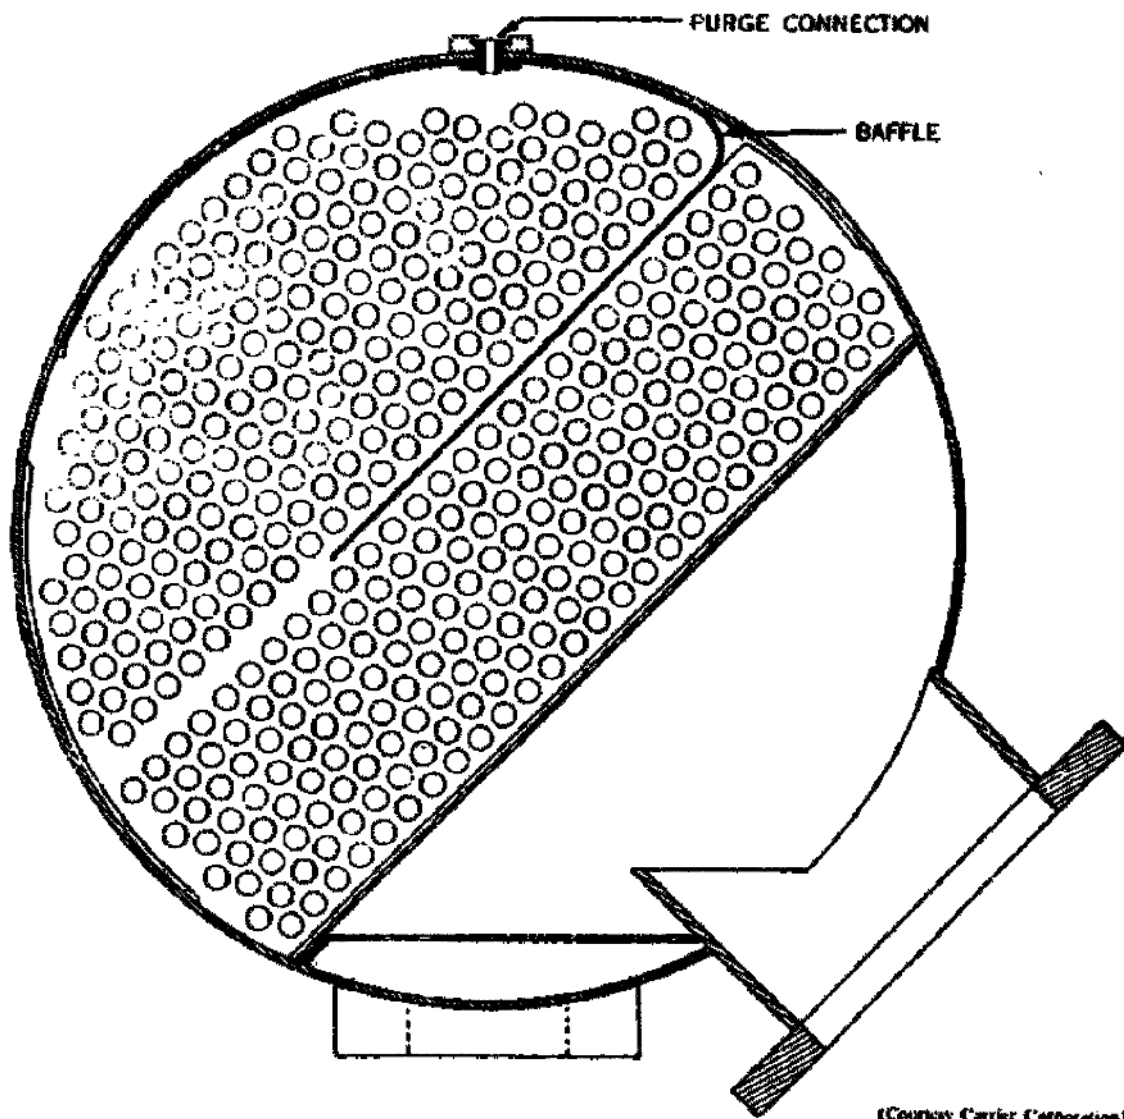
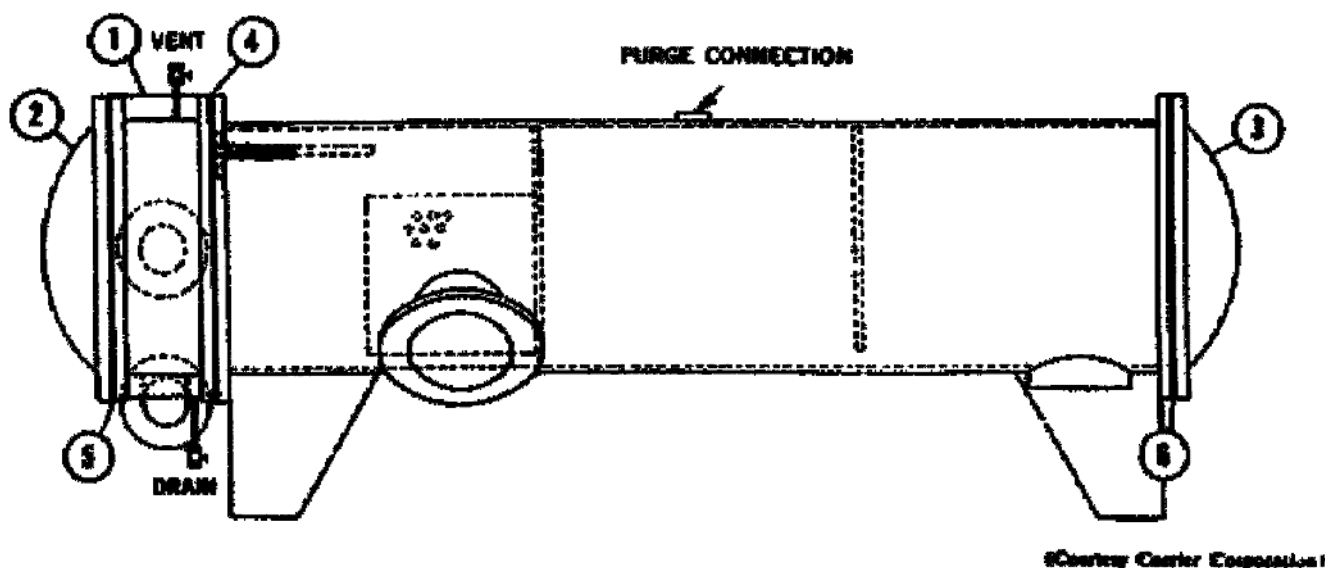

Figure 62. Cross section of the condenser.
Figure 63. Condenser diagram.
1. The condenser is a shell and tube type similar in construction to the cooler. The primary function of the condenser is to receive the hot refrigerant gas from the compressor and condense it to a liquid. A secondary function of the condenser is to collect and concentrate noncondensable gases so that they may be removed by the purge recovery system. The top portion of the condenser is baffled, as shown in figure 62. This baffle incloses a portion of the first water pass. The noncondensables rise to the top portion of the condenser because they are lighter than
2. A perforated baffle or distribution plate, as shown in figure 62, is installed along the tube bundle to prevent direct impact of the compressor discharge on the tubes. The baffle also serves to distribute the gas throughout the length of the condenser. The condensed refrigerant leaves the condenser through a bottom connection at one end and flows into the condenser float trap chamber into the economizer chamber. The water boxes of all condensers are designed for a maximum working pressure of 200 p.s.i.g. The water box, item 1 in figure 63, is provided with the necessary division plates to give the required flow. Water box covers, items 2 and 3 in figure 63, may be removed without disturbing any refrigerant joint since the tube sheets are welded into the condenser and flange. Vent and drain openings are provided in the water circuit. The condenser is connected to the compressor and the cooler shell with expansion joints to allow for differences in expansion between them. Figure 63 is a side view of the condenser.
- (1) Shut off the main line inlet and outlet valves.
- (2) Drain water from condenser through the water box drain valve. Open the vent cock in the gauge line or remove the gauge to help draining.
- (3) Remove all nuts from the water box covers, leaving two on loosely for safety.
- (4) Using special threaded jacking bolts, force the cover away from the flanges. As soon as the covers are loose from the gaskets, secure a rope to the rigging bolt in the cover and suspend from overhead. Remove the last two nuts and place on the floor.
(5) Scrape both the cover and the matching flange free of any gasket material, items 4, 5, and 6 in figure 63.
(6) Remove the water box division plate by sliding it out from its grooves. Caution should be used in removing this plate; it is made of cast iron. Penetrating oil may be used to help remove the plate.
(7) Use a nylon brush or equal type on the end of a long rod. Clean each tube with a scrubbing motion and flush each tube after the brushing has been completed. **CAUTION:** Do not permit tubes to be exposed to air long enough to dry before cleaning since dry sludge is more difficult to remove.
(8) Replace the division plate after first shellacking the required round rubber gasket in the two grooves.
(9) Replace the water box covers after first putting graphite on both sides of each gasket, since this prevents sticking of the gaskets to the flanges. **CAUTION:** Care must be taken with the water box cover on the water box end to see that the division plate matches up the rib to the flanges.
(10) Tighten all nuts evenly.